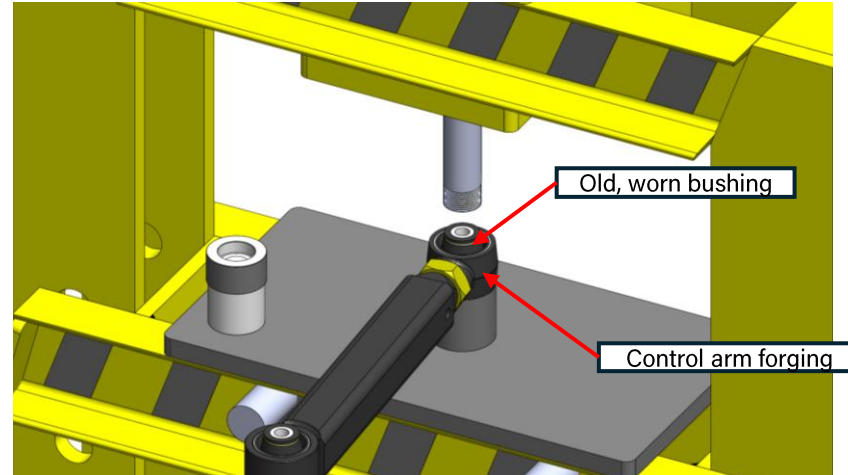

Figure 2: Control arm forging laying flat on sleeve
- Place the forging end of the control arm **flat** on top of the sleeve, with one end of the bushing fitted inside the top of the sleeve (Figure 2). You may leave the control arm threaded onto the forging, as it does not need to be removed.